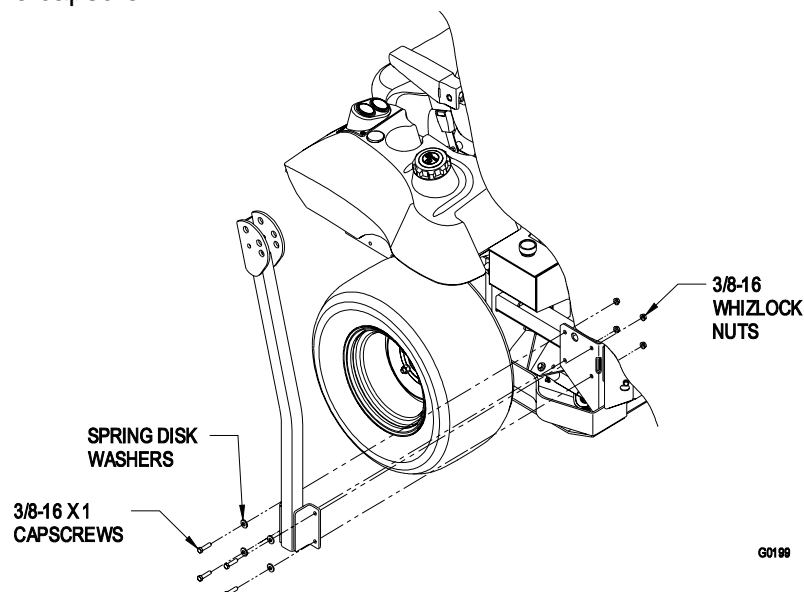

FIGURE 2
- Align lower roll bar tubes along wheel motor channels as shown in Figure 2.
- c) **LOOSELY** install the lower roll bar hardware (four 3/8-16 x 1 capscrews, four spring disk washers and four 3/8-16 whizlock nuts) from the bolt bag to the tubes on each side as shown in Figure 2.